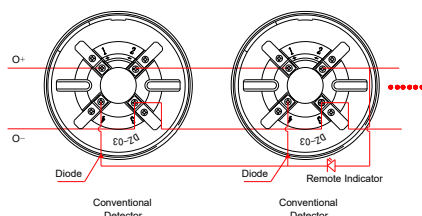

Fig. 8
- ✧ When a remote indicator connects with a few of detectors, a diode 1N5819 needs connecting with Terminal 4 of the orientation base in series and with anode of the remote indicator. The system composition is shown in Fig. 8.